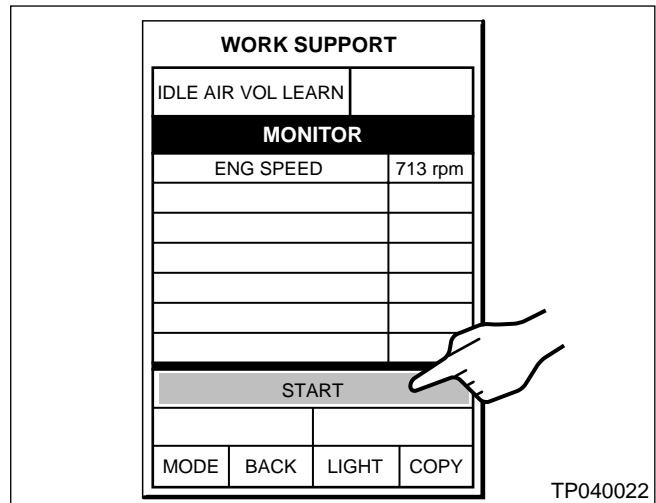

Figure 3
10. Press **START** on the “WORK SUPPORT” screen to begin the Idle Air Volume Learning (IAVL) procedure. See Figure 3.